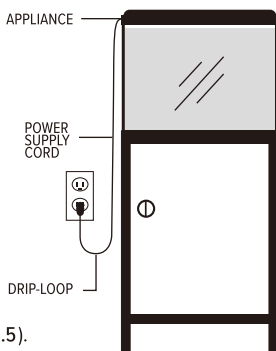

Fig.5
12. Plug the adapter into the outlet. Create a drip-loop for both the filter and aquarium (see Fig.5).